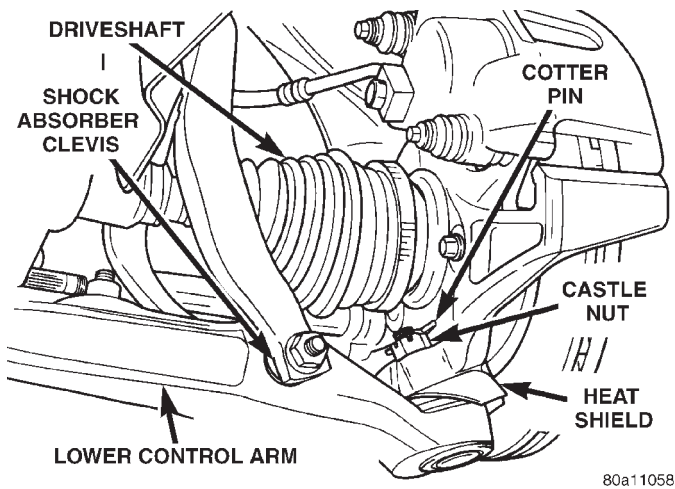
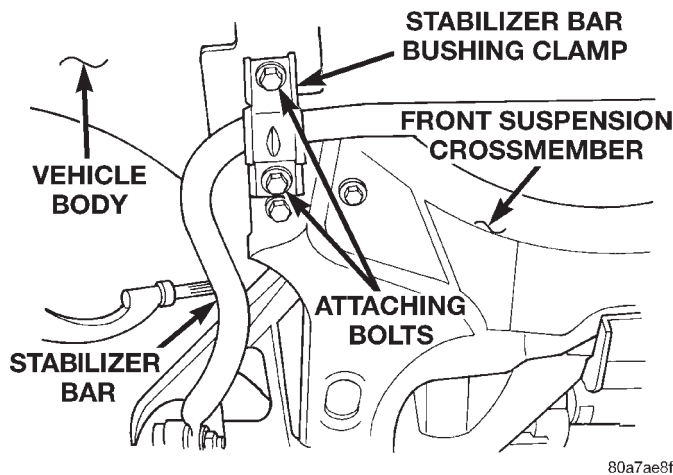

Fig. 30 Lower Ball Joint Attachment To Steering Knuckle
Fig. 34 Stabilizer Bar Bushing Clamp Attachment To Vehicle
(5) Remove cotter pin and castle nut (Fig. 30) from stud of lower ball joint.
(9) Remove the bolts (Fig. 34) attaching the one stabilizer bar bushing clamp to the front suspension crossmember and the body of the vehicle.
(3) Install the lower control arm ball joint stud into the steering knuckle. Install the steering knuckle to ball joint stud castle nut (Fig. 30).
(5) Tighten the lower control arm ball joint stud castle nut (Fig. 30) to a torque of 74 N·m (55 ft. lbs.). Install the cotter pin (Fig. 30) in the ball joint stud.
(6) Position sway bar link into its lower control arm mounting hole.
(7) Align sway bar bushing clamp with mounting holes in front suspension crossmember and body of vehicle. Then install and securely tighten the bushing clamp mounting bolts (Fig. 34) to a torque of 61 N·m (45 ft. lbs.).